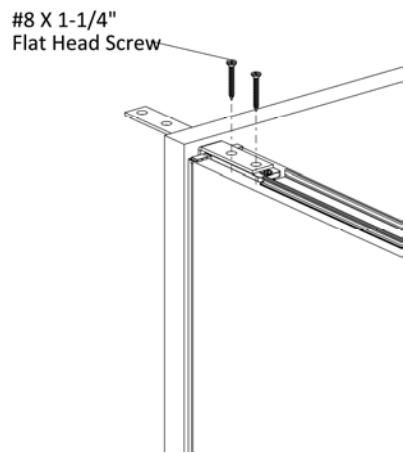

Figure 2
- Drive two #8 X 1-1/4" Flat Head Screws through the holes in gallery panel top bracket into the standard panel, (Figure 2).